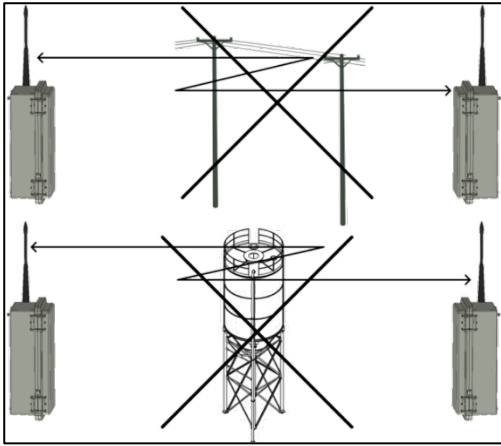
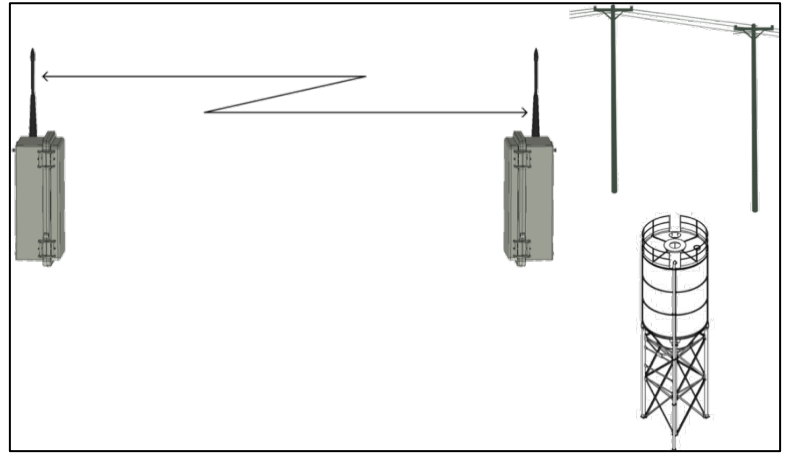

Figure 13: Obstacles in Path
Figure 14: Clear Path
- Ensure that there are no metal obstacles or power lines between the RLINK ONEs (Figure 13 and Figure 14). These objects create electromagnetic interference.